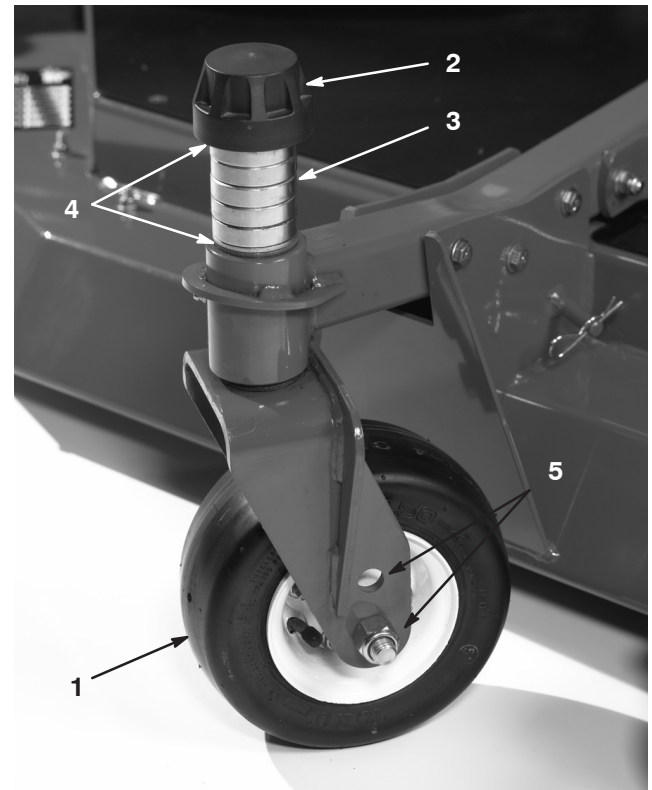

Figure 6
3. Remove the tensioning cap from the spindle shaft (Fig. 6) and slide the spindle out of the castor arm. Put the 2 shims (1/8 inch) onto the spindle shaft as they were originally installed. These shims are required to achieve a level across the entire width of the cutting units. Slide the appropriate number of 1/2 inch spacers onto the spindle shaft to get the desired height-of-cut; then slide the washer onto the shaft.